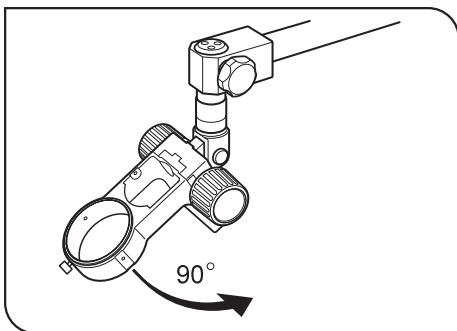

Fig. 11
6. To change the angle of the bonder arm, loosen the bonder arm angle adjustment screw. (Fig. 11)